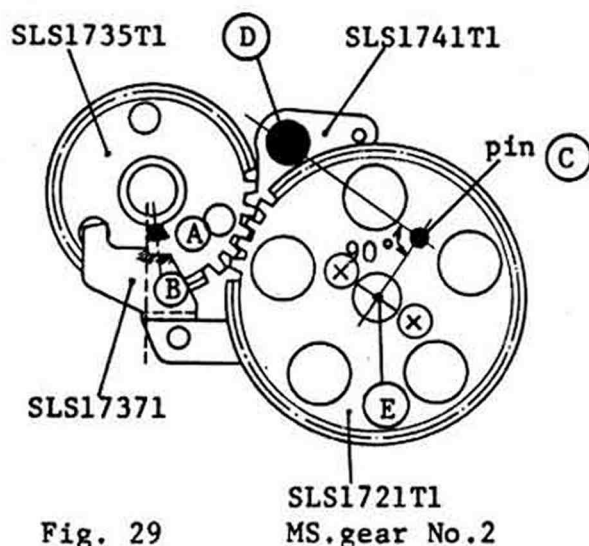

Fig. 29
- 2) Rotate the SLS1735T1 Gear No.2 as center of protrusion (A) is on the line (B) as shown in Fig. 29
- 3) Engage SLS1721T1 MS.gear No.2 with SLS1735T1 S.gear No.2 as making a right angle at the center of pin (C) between line D-C and E-C as shown in Fig. 29.